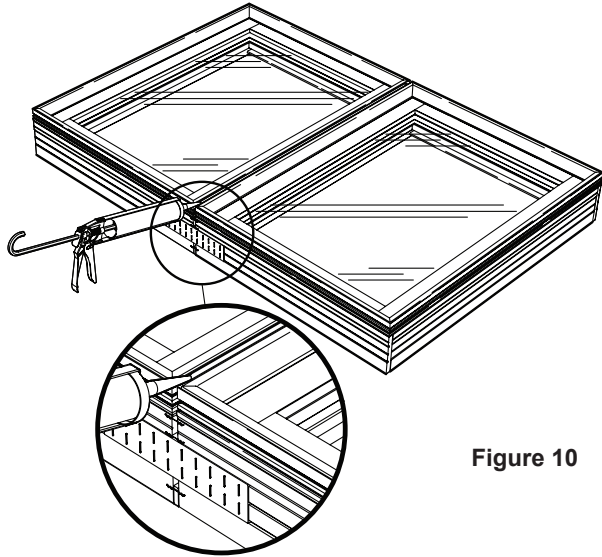

Figure 10
12. Apply a liberal bead of silicone the full length of the exterior mull joint in-between the units. (Figure 10)